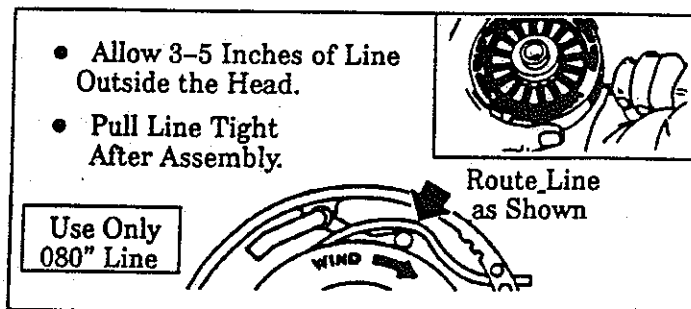

Figure 18
- f. Route Line behind Balancing Pin (Figure 18) while carefully placing Spool in Hub.
- g. Pull on the Line extending outside the Hub to make sure the Line will not advance. See Inset, Figure 18. This indicates that the Line is routed properly.
- j. Pull on the Line again from outside the Hub. If the Line can be pulled from the assembled head, it is not properly routed around the Balancing Pin and will feed continuously when the Trimmer Head turns. Remove Cover and re-route Line as shown in Figure 18.